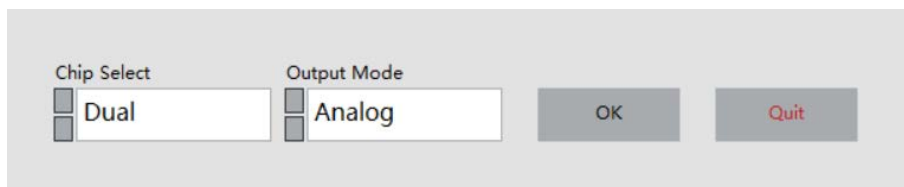
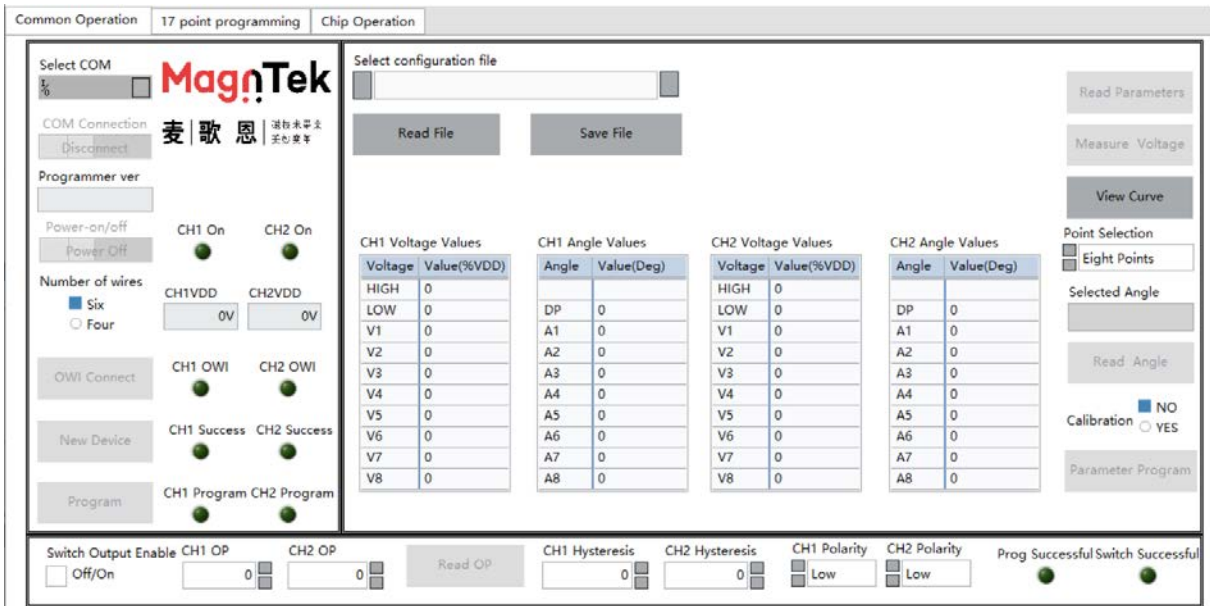

Figure 5.1.1 Chip Select
Figure 5.1.2 17 point programming
- 3、 Double-click the "PB600GUI\_MT6511.exe" file to open the software, and the screen for selecting the chip mode will pop up (Figure 5.1.1). Here, select the parameters of "dual chip" and "Analog output" and click "OK" to enter the mode programming interface (Figure 5.1.2).